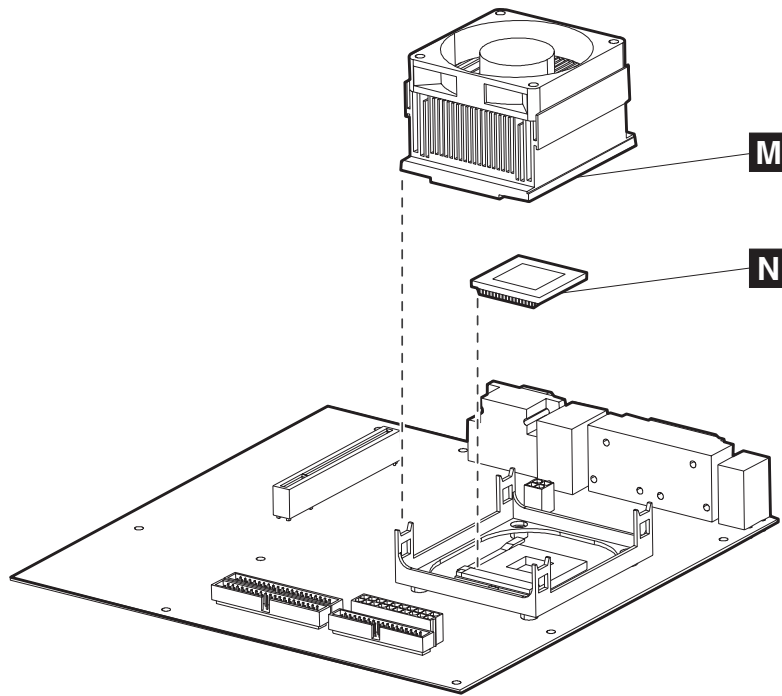

Figure 34. Heat sink and processor
7. See Figure 34. Press down on the processor latch, and move sideways and up to unlock. Lift out the processor, carefully keeping your fingers on each side of the module.